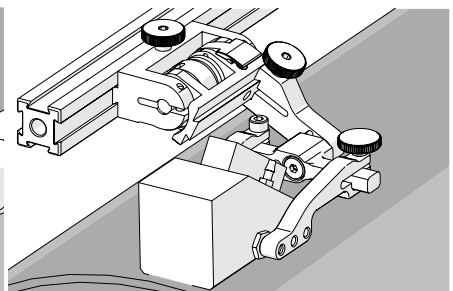

Fig. 206 - Spring loaded scan position
4. Gently lower probe holder and wedge to the scanning surface (Fig. 206).